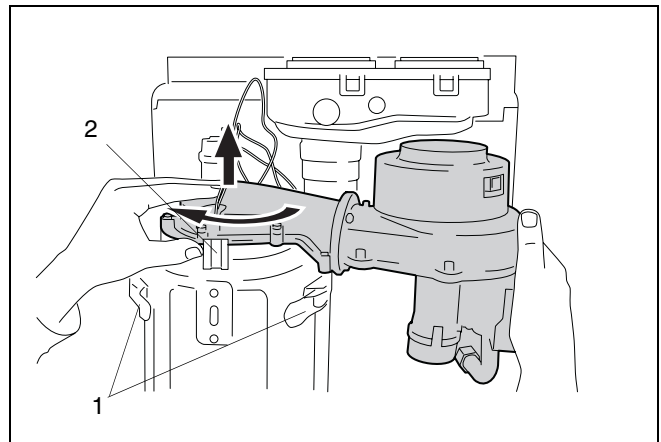

fig. 52 Remove gas air unit
- By turning the unit a quarter turn (fig. 52, item 2), the unit can be removed by lifting it out of the boiler.
- Now the front cover of the heat exchanger can be removed by opening the latches (fig. 52, item 1).